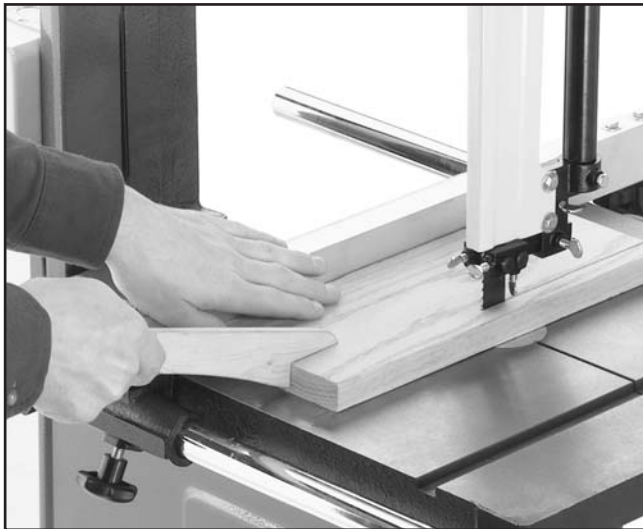

Figure 41. Ripping with a push stick.
3. Making sure all safety precautions have been taken, start the bandsaw. Slowly feed the workpiece into the blade and continue with the cut until the blade is completely through the workpiece. **Figure 41** shows a typical ripping operation. When cutting narrow pieces, use a push stick to protect your fingers.